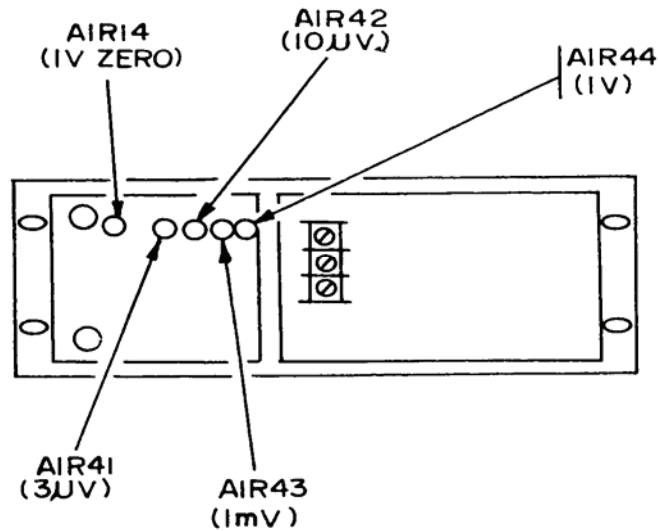

Figure 5. Dc generator detector - rear interior view - adjustment locations.
(1) Adjust A1R14 1V ZERO (fig. 5) for a 0 (zero) indication on TI meter.
(2) Adjust calibrator controls for a 0.003000 V output and adjust A1R41 3 μ V (fig. 5) for a 3 μ V indication on TI meter (R).